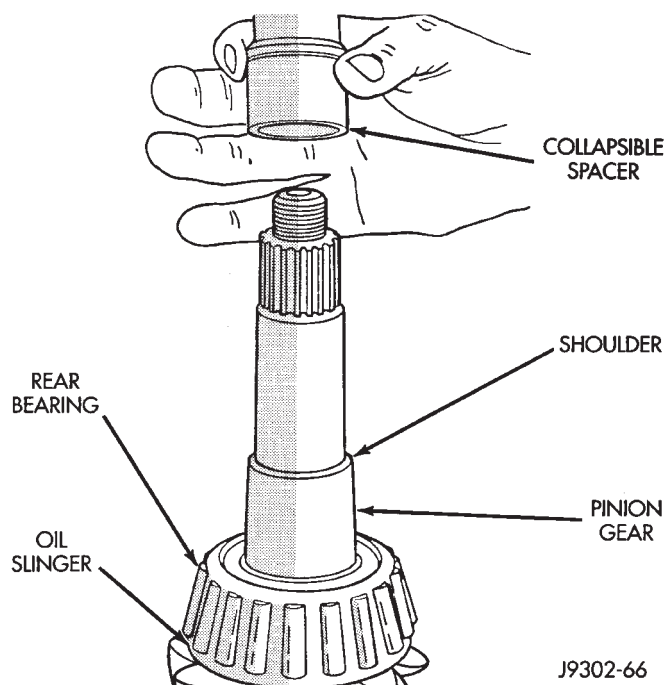

Fig. 27 Collapsible Spacer
(11) Remove the collapsible preload spacer (Fig. 27).